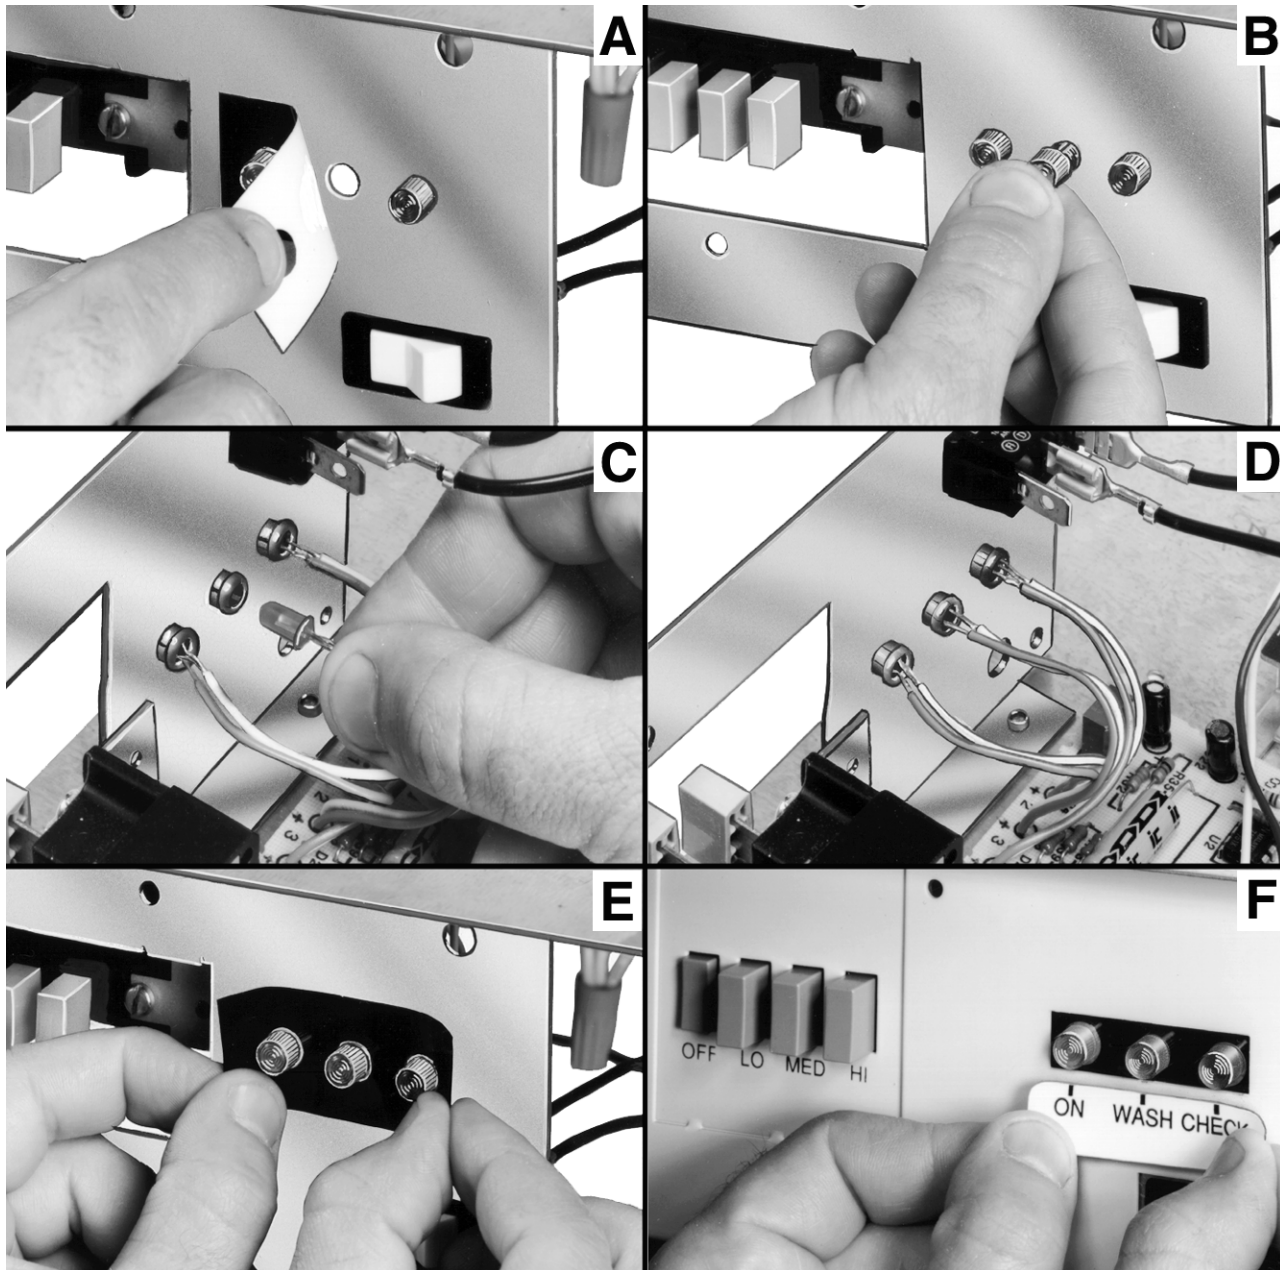

Fig. 4. Installing Optional Wash LED.
Two light-emitting diodes LED(s), ON and CHECK, are included with the F57. The ON LED lights when the solid-state power supply is powered and operating normally. The CHECK LED lights if the F57 requires service attention or if the test button is pressed. A WASH LED is also supplied with the F57 but it is not factory installed. It can be field installed using 4074 EMH Bag Assembly which is supplied with the F57. See Fig. 4. The WASH LED lights to indicate cell washing is overdue.
- ☐ If installing optional WASH LED, remove power supply cover. Refer to Fig. 4 and the corresponding steps below: